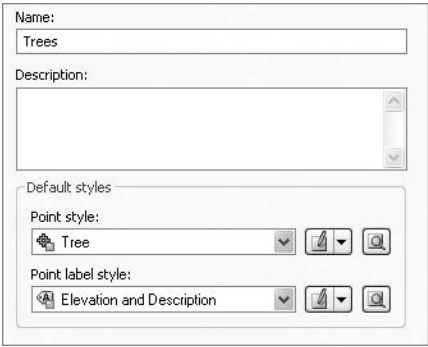

Figure 5.7
4. Use the Point Style pull-down list to choose `Tree`, and use the Point Label Style pull-down list to choose `Elevation and Description`. The dialog should now look like Figure 5.7.